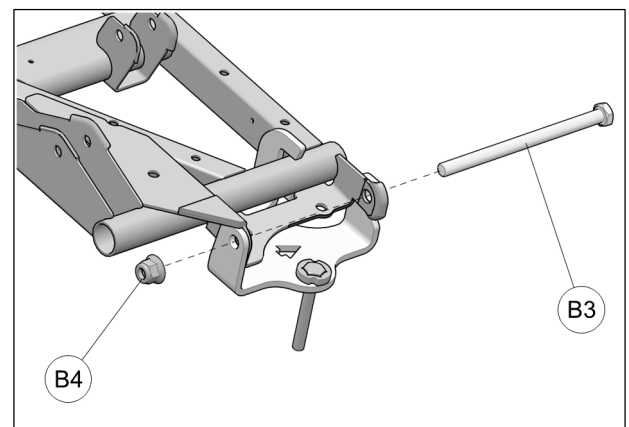

Fig. 9
8. Insert new M12X180mm mounting bolt (**B3**) through anchor bracket, suspension arm and wheel hub. Secure with new provided nut (**B4**). See Fig. 9